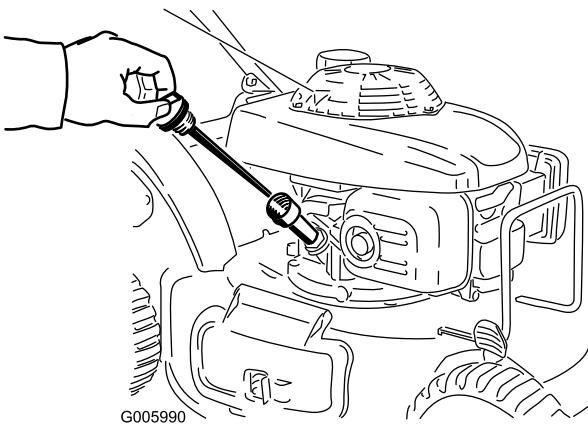

Figure 40
2. Remove the dipstick (Figure 40).
4. Slowly pour oil into the oil fill tube, periodically checking the level with the dipstick, until the dipstick indicates that the engine is full as illustrated in Figure 40. **Do not overfill.** (Max. fill: 20 oz. (0.55 l), type: SAE 30 detergent oil with an API service classification of SH, SJ, SL, or higher.)